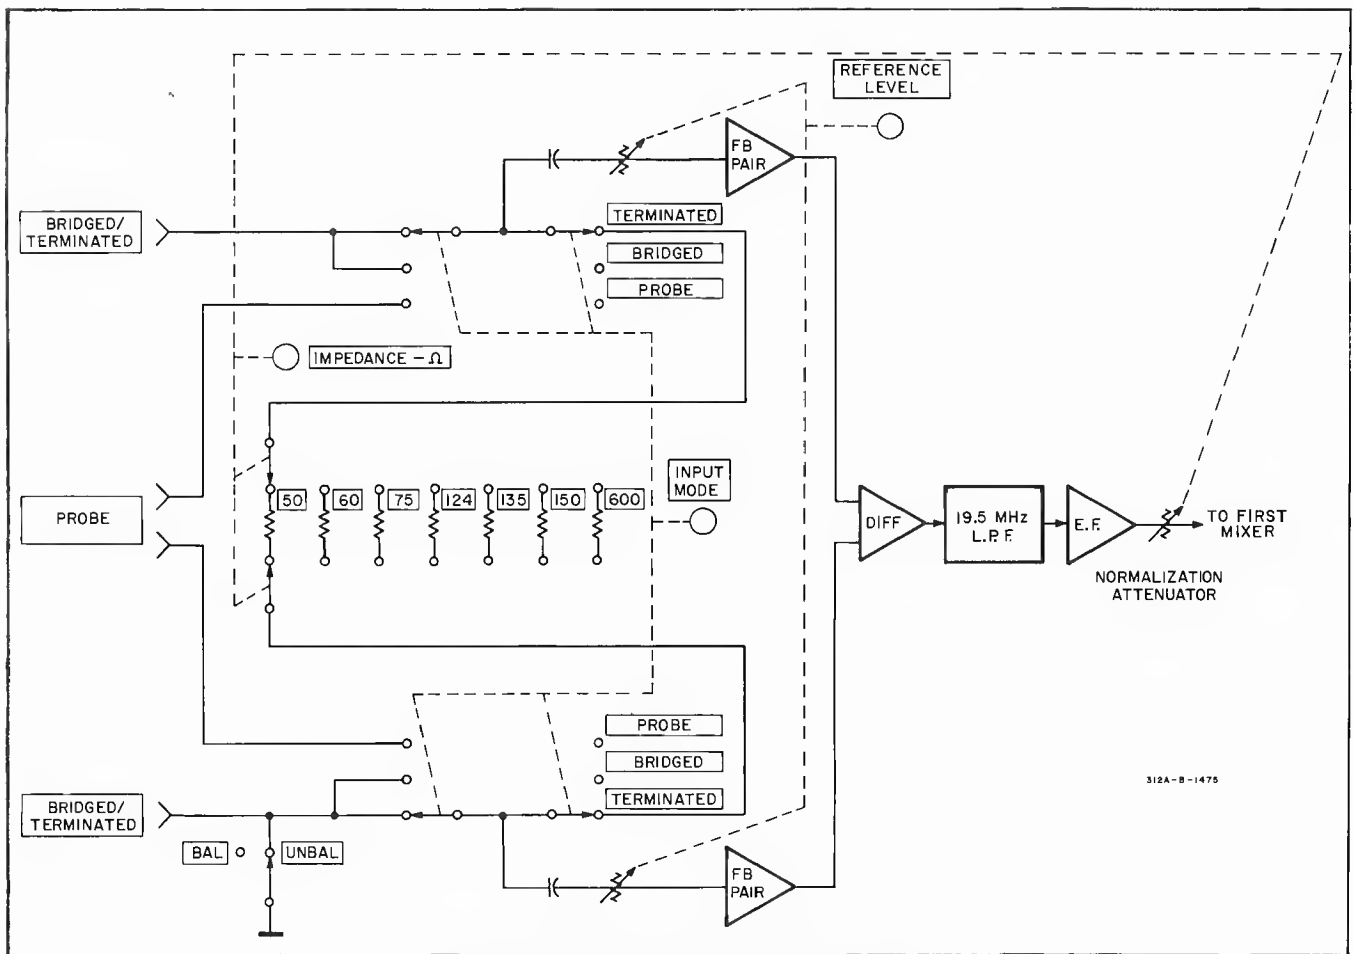

Figure 4-2. Simplified Input Circuit (312B Only).
4.8. The input circuitry (Figure 4-2) is necessary to condition the signal for processing. The input circuitry allows a choice of balanced or unbalanced inputs that can